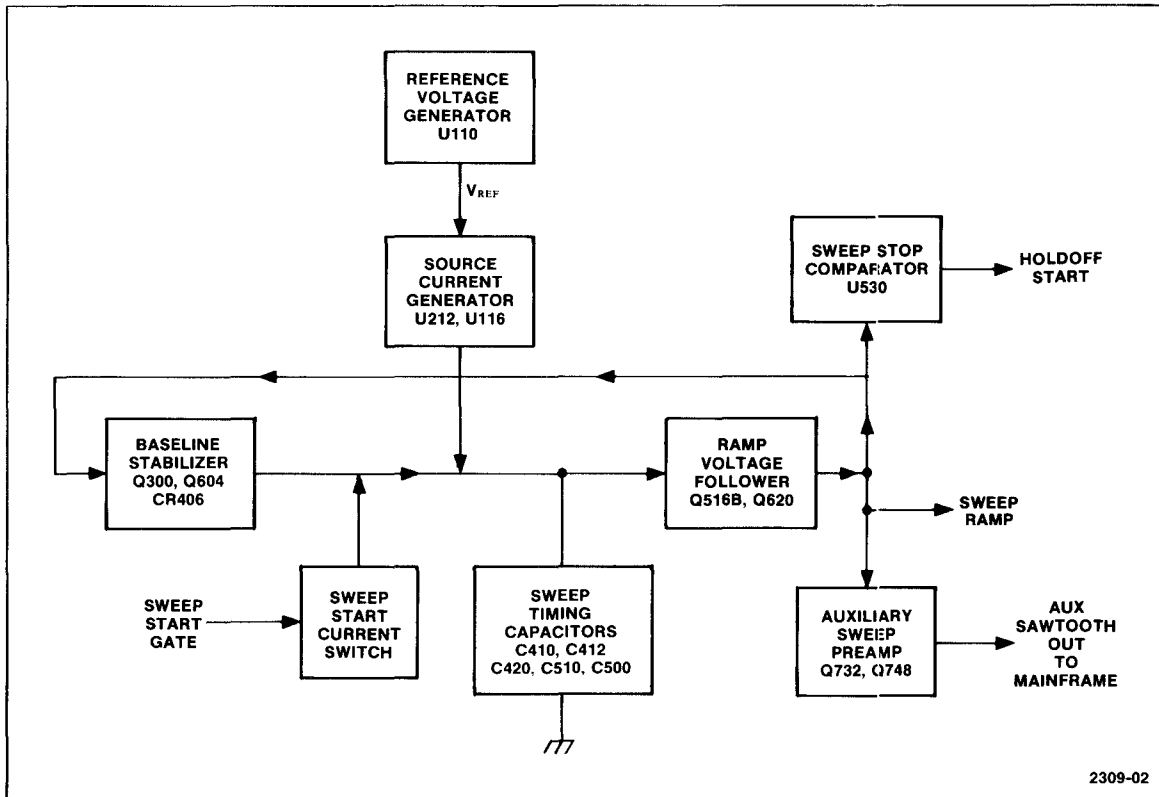

Fig. 5-2. Sweep generator block diagram.
The sweep generator is divided into three main parts - the timing current source, the ramp generator and the auxiliary sweep preamp. Fig. 5-2 shows a block diagram of the sweep generator.
**Timing Current Source.** The timing current source generates a precise source current for the ramp generator. The amount of current is controlled by signals from the microprocessor. The reference voltage generator and the source current generator comprise the timing current source (see Fig. 5-2).